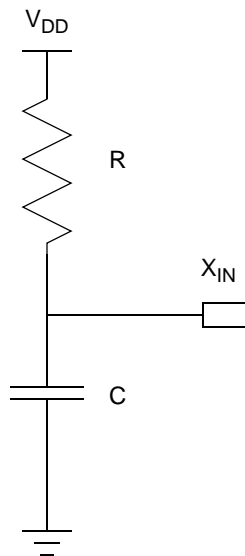

Figure 41. Connecting the On-Chip Oscillator to an External RC Network
The External RC Oscillator mode is applicable to timing-insensitive applications. Figure 41 displays a recommended configuration for connection with an external resistor-capacitor (RC) network.